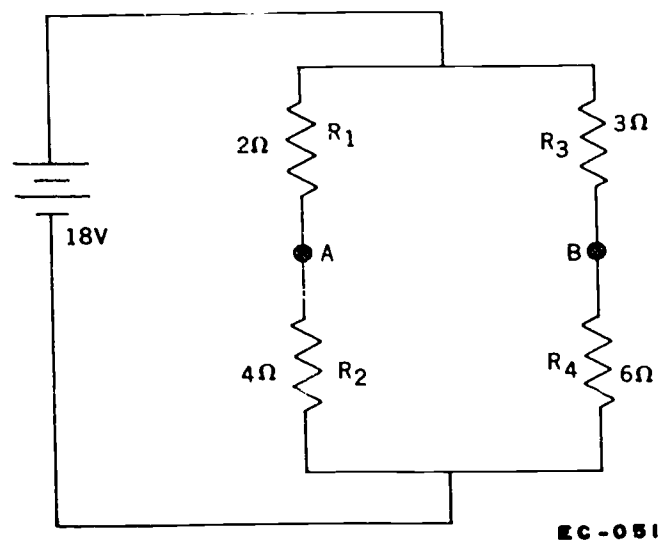
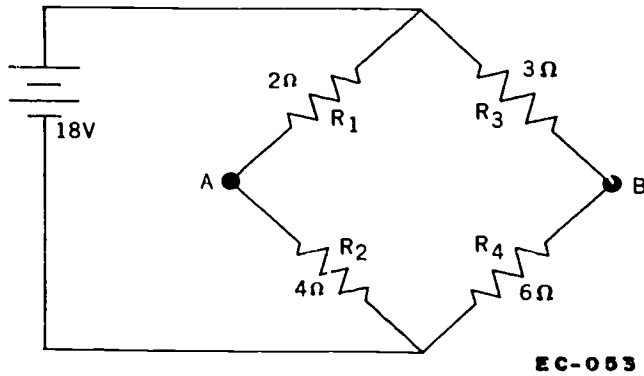

Figure 4-7. Series-parallel bridge circuit.
Figure 4-8. Basic bridge circuit.
033. Using figures 4-7 through 4-9, solve problems for typical balanced resistive bridge circuits.
Balanced Bridge Circuit. In figure 4-7 you can see a parallel circuit consisting of two branches, each having two series connected resistors. Current flows in each branch and the two currents join to return to the battery. Near the center of each branch are two terminals, identified as A and B. Figure 4-8 is the same circuit as figure 4-7, but the illustration is drawn to form the characteristic diamond shape of a bridge circuit. For the bridge to be complete, however, there must be a load of some kind connected between terminals A and B. This may be a resistor, coil, or any one of numerous electrical devices. In most test equipment, it is normal for the device in this position to be a galvanometer. The galvanometer shows the current that is flowing when the bridge is unbalanced.
Return to figure 4-8 and picture R_1 as having 3 amperes and R_3 as having 2 amperes. Again, we have two factors for each resistor. Thus, we can get the voltage at those resistors by using Ohm's law. R_1 has a voltage drop of 6 volts and R_3 has a voltage drop of 6 volts. The same procedures are used to get the voltage at resistors R_2 and R_4 .
2. Using the resistance values $R_1 = 100$ ohms, $R_2 = 50$ ohms, $R_3 = 150$ ohms, and $R_4 = 75$ ohms for figure 4-8, determine the potential at points A and B.